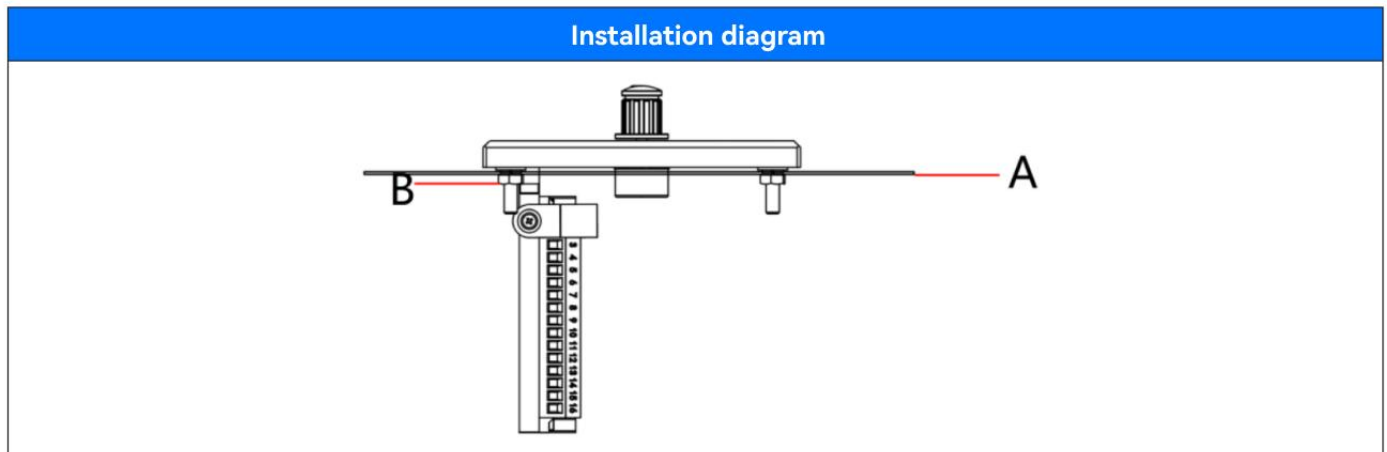

Figure 3.1
1. As shown in Figure 3.1, install the main body of the dimmer on the mounting surface A, and twist the nut B at the same time to ensure that it is stable and reliable.